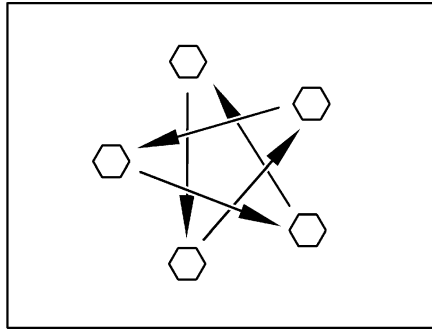

Fig. 158 Tighten the wheel nuts or wheel bolts cross-wise
- Check regularly that the wheel nuts or wheel bolts are firmly seated. Re-tighten the wheel bolts of a changed wheel cross-wise after 50 km (30 miles) (Fig. 158).
- ▷ Tighten the wheel nuts or wheel bolts cross-wise (Fig. 158).